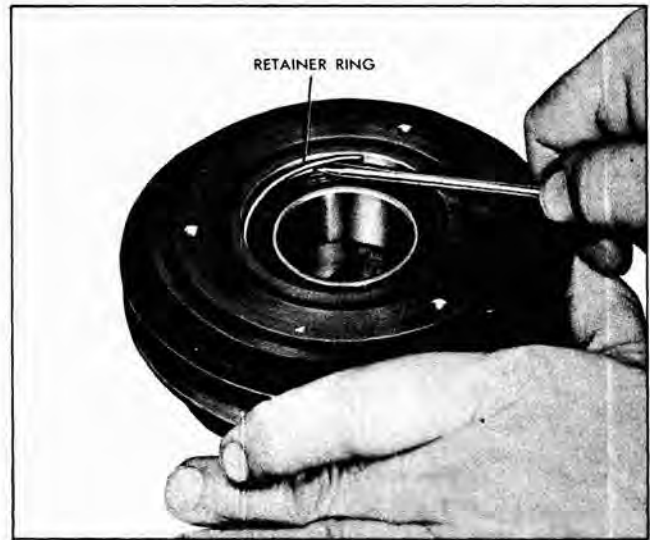

Fig. 5-55 Removing Pulley Bearing Retainer Ring
5. Remove pulley bearing wire retainer ring with an awl or a small screwdriver (Fig. 5-55).